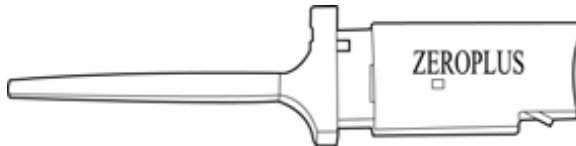

Fig. 2-4: Probes supplied with the Zeroplus.
Hardware installation simply involves connecting the Logic Analyzer to your computer with the included USB Cable as shown in Figures 2-4 and 2-5.
- 5. Plug the square end of the USB cable into the Logic Analyzer (Fig.2-4).